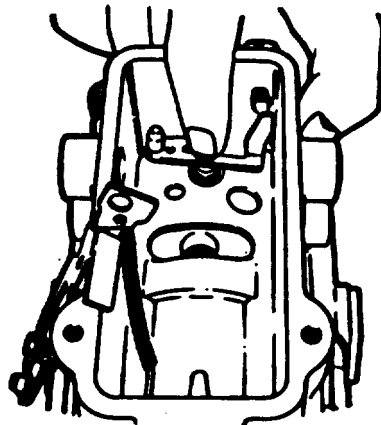

**FIGURE 3-79. Vent Wire Screw Assembly**
**Ensure nylon patch on vent wire screw assembly (50) is intact.**
- ar. Install vent wire screw assembly (50), refer to FIGURE 3-79.